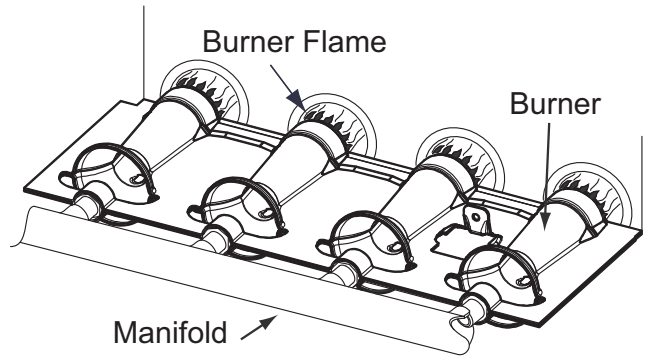

Fig. 62 - Burner Flame
8. Reverse items 6 through 1 for reassembly.
11. Check furnace operation through 2 complete heat operating cycles. Look at burners. Burner flames should be clear blue, almost transparent. See Fig. 62.